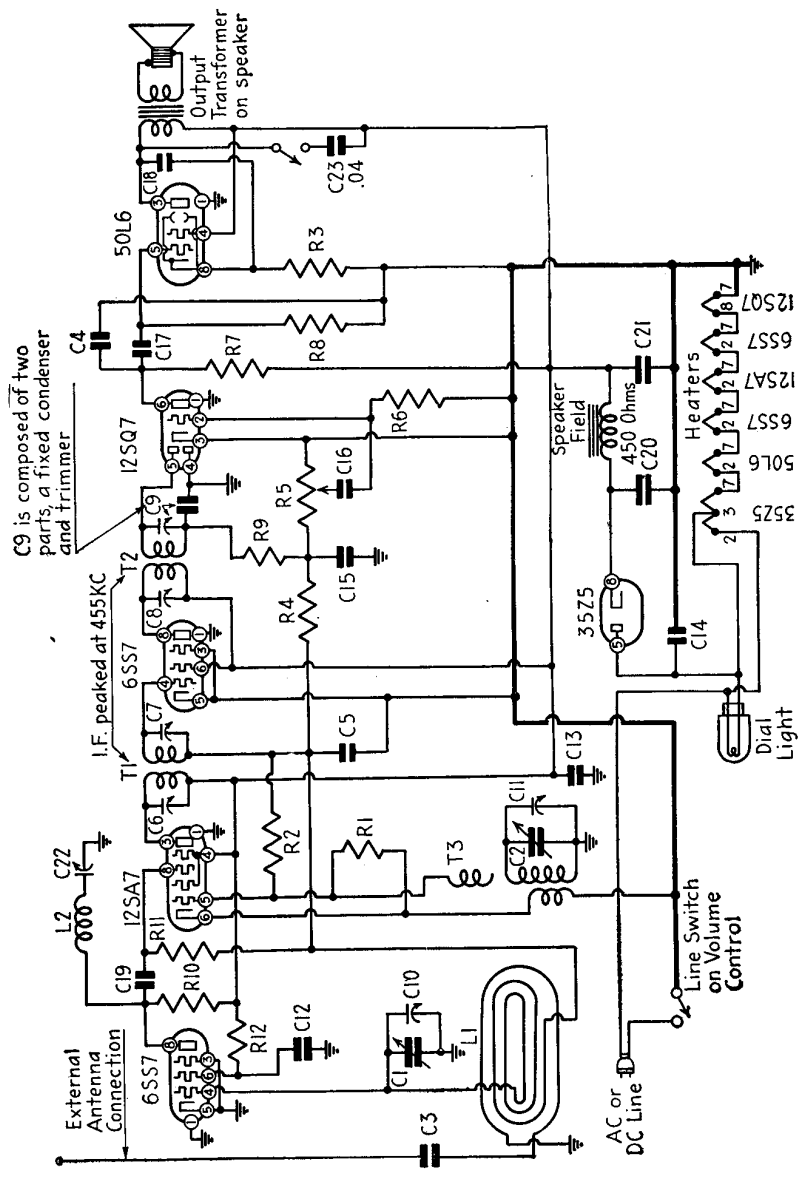
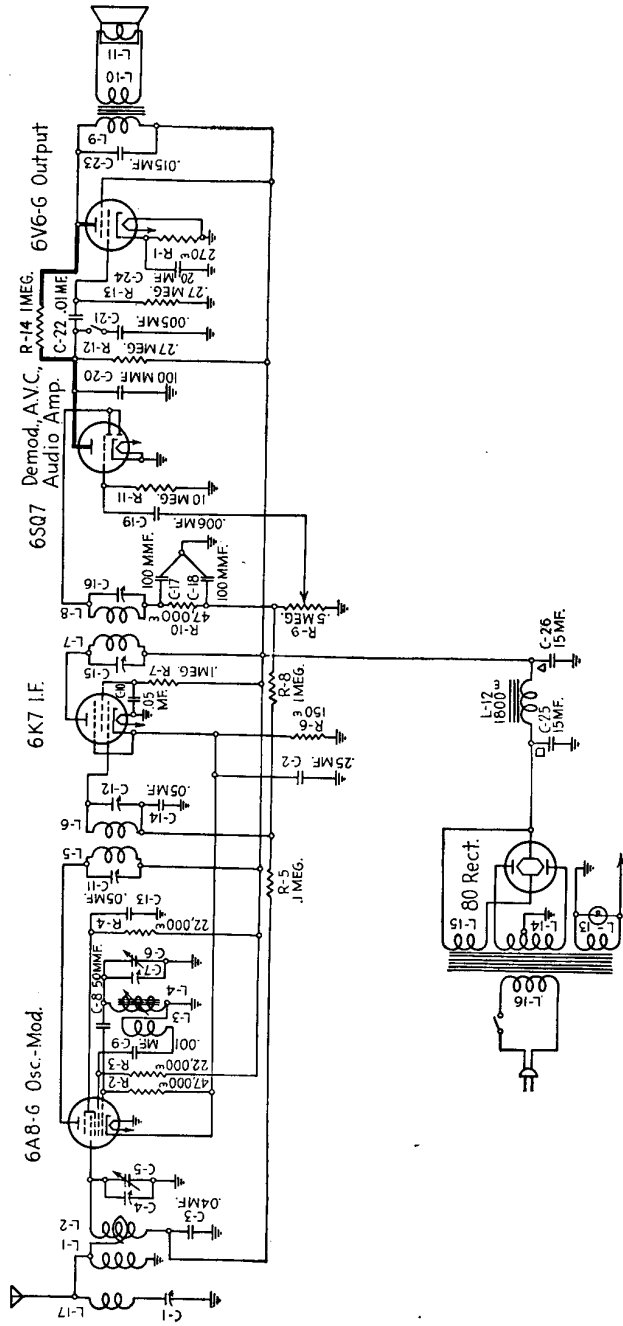

Fig. 10-13.—Schematic diagram for Emerson Model GB receiver.
Fig. 10-14.—Schematic circuit of the Stromberg-Carlson No. 400 receiver.
A modern trend in the use of tone controls is to replace the variable resistor $R-112$ with a switch, thereby making a 2-point tone control. An example of this is shown in Fig. 10-13. Note the tone condenser $C-23$ and its associated switch in the plate circuit of the 50L6 tube. When the switch is open, there is no shunting action, and this is the treble position. In the bass position, where the switch is closed, $C-23$, which is 0.04 mfd, shunts some of the high audio frequencies out of the speaker.
Figure 10-14 shows a similar 2-point tone control. In this case, the shunting action of $C-21$ and its associated switch is in the input circuit of the second AF tube.
In Fig. 10-13, the cathode by-pass condenser has been omitted to provide degeneration through self-bias resistor $R-3$, which is common to both the input and output circuits of the 50L6 tube. Since the input and output circuits of a tube are 180 deg out of phase, degeneration is automatic. Condenser $C-18$, the high-frequency by-pass condenser, is returned directly to cathode rather than to ground, so that the degenerative effect is greater at the higher frequencies (especially the high harmonic frequencies), thereby making for more uniform response for the stage. In Fig. 10-14 the inverse feedback
As a general rule, inverse feedback circuits do not cause many complications to the serviceman. All tests and service notes pertaining to the standard amplifier circuit may be applied. Resistor *R-14* in the feedback circuit, represented in Fig. 10-14, will rarely cause any service difficulty.
5. The receiver of Fig. 10-14 has low volume and sounds tinny. A voltage check shows normal voltage readings. Substitution of the bench test speaker causes no improvement. What should the next check be?
6. The receiver of Fig. 10-14 motorboats. Bridging the output filter condenser C-26 with a 20-mfd/450-volt condenser causes no improvement. What should the next check be?
7. The receiver of Fig. 10-13 begins to distort after it has been playing for 15 min. What would you suspect is wrong? How would you confirm your suspicion?
9. The receiver of Fig. 10-13 is brought in as dead and gives the following voltage readings for the second AF stage: